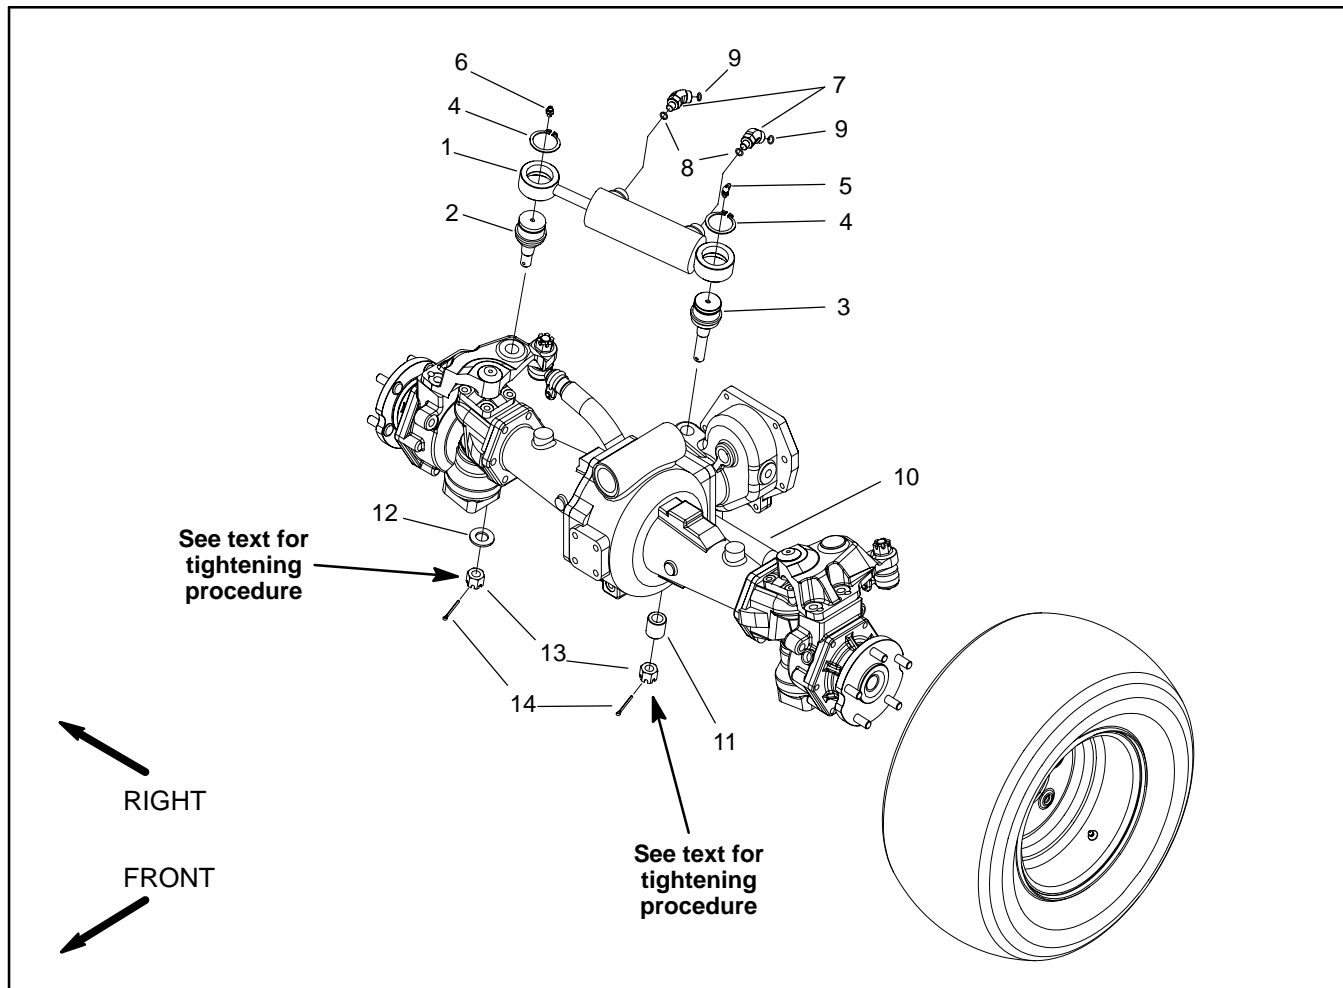

Figure 67
Removal (Fig. 67)
5. Remove cotter pins, hex slotted nuts, axle washer and ball joint spacer from the threaded ends of ball joints (Fig. 67). Remove steering cylinder with ball joints from machine.
Installation (Fig. 67)